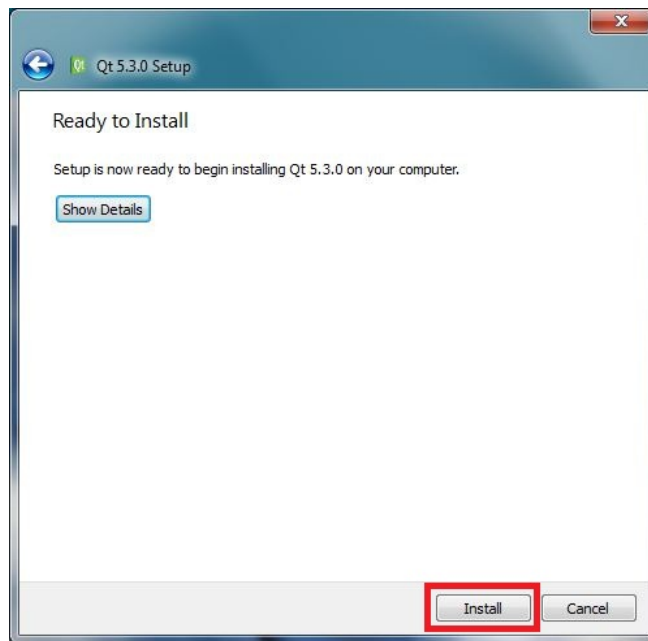

Figure 4-5. Qt Creator IDE Ready To Install
- Click the **Next** button as shown in Figure 4-5.